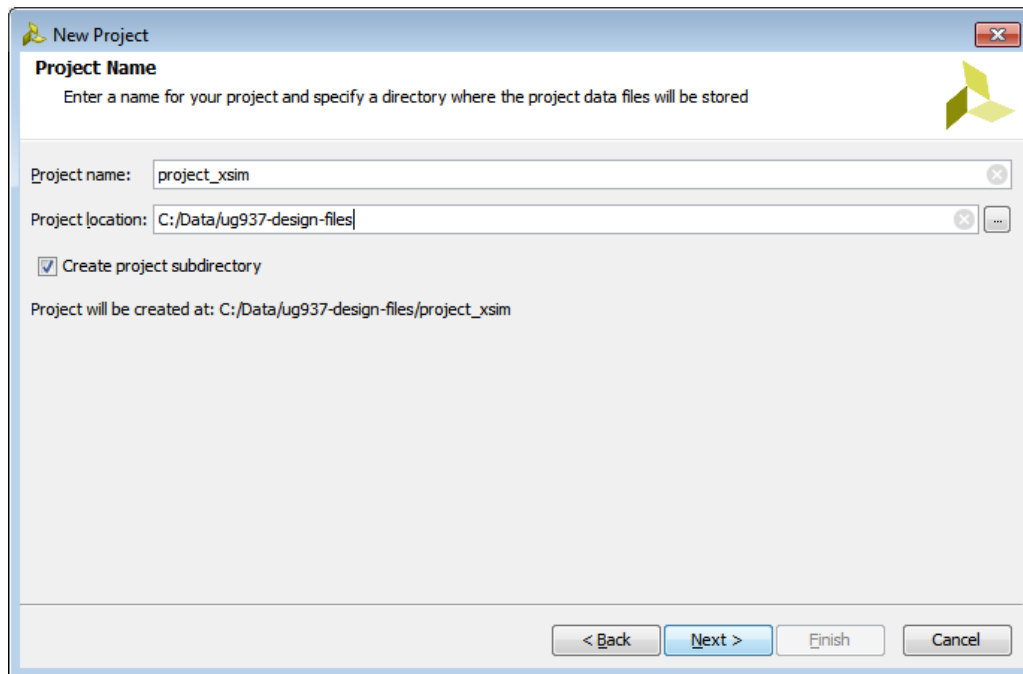

Figure 3: Create Project
4. For the **Project Location**, browse to the folder containing the extracted tutorial data, `<Extract_Dir>`, and click **Next** (Figure 3).